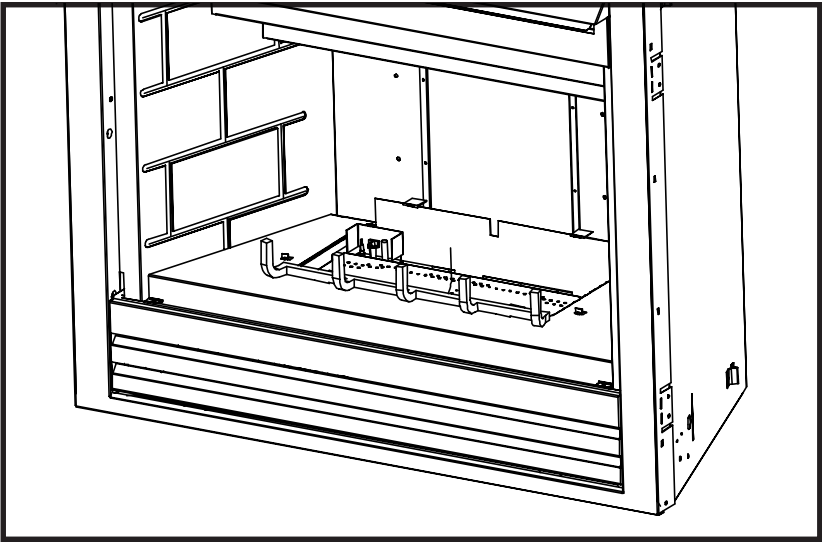

Figure 43
6. Position the grate into the cutout in the refractory. Hook the grate into position using the tabs on the bottom of the grate. Make sure the grate is pulled forward on the refractory (see Figure 43).